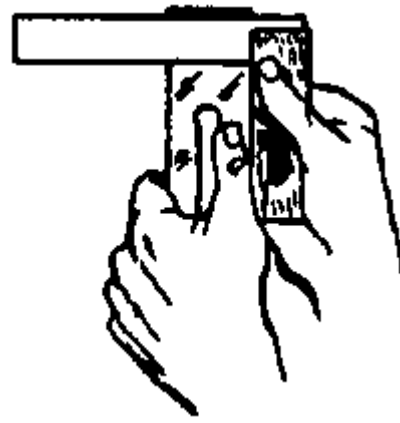

Fig. 3
- Before grinding, test the cutting edge for squareness. Put a try square on top of the chisel or plane iron, with the cutting edge projecting slightly past the try square blade (Fig. 3). Be careful not to touch the cutting edge with the square.